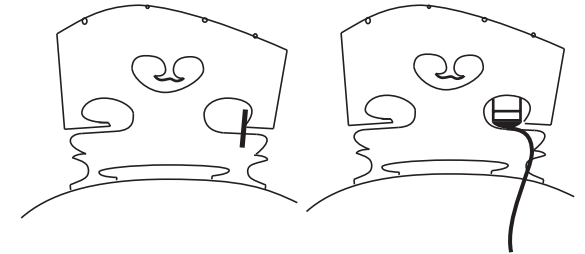

Fig. 4
- If the bridge holes are very small, it may be necessary to shorten the bridge wings to allow the wedge to be fixed deeper, thus allowing more space for the capsule as shown in Fig 4. (On the double bass, the cork should not be ground off to less than 6 mm (1/4").)